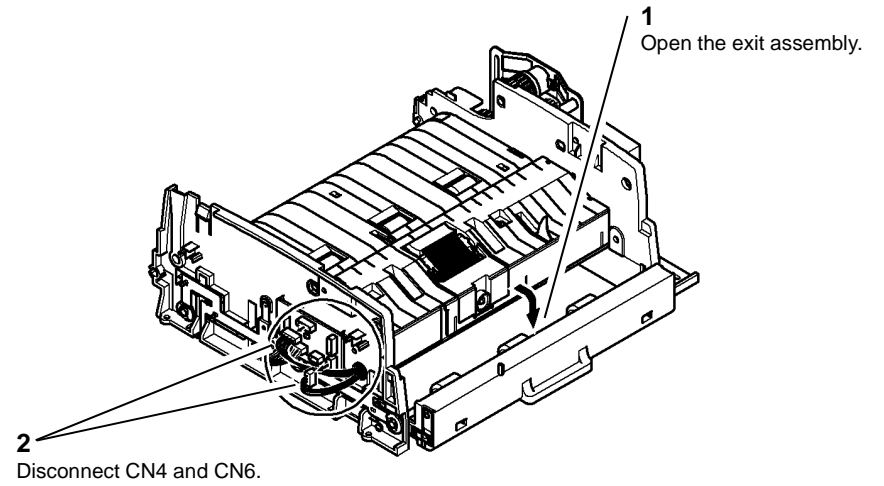

Figure 14 Preparation
15. Prepare to remove the lower feed assembly, Figure 14.